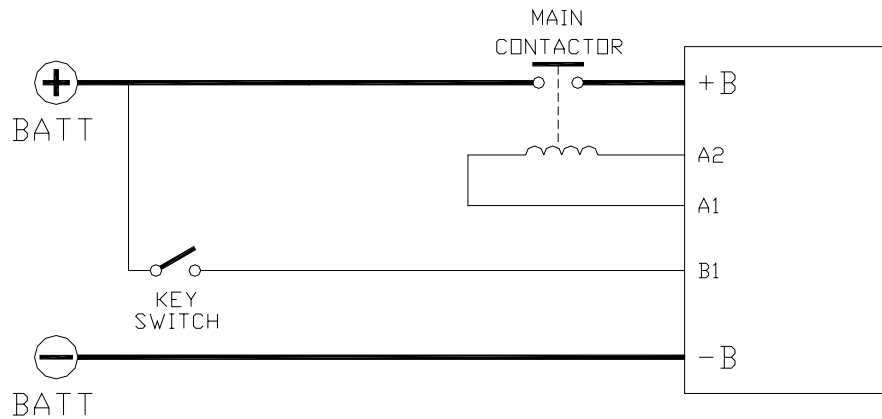

Figure 7-1
- The connection of the main contactor can be carried out following the drawing in Figure 7-1.